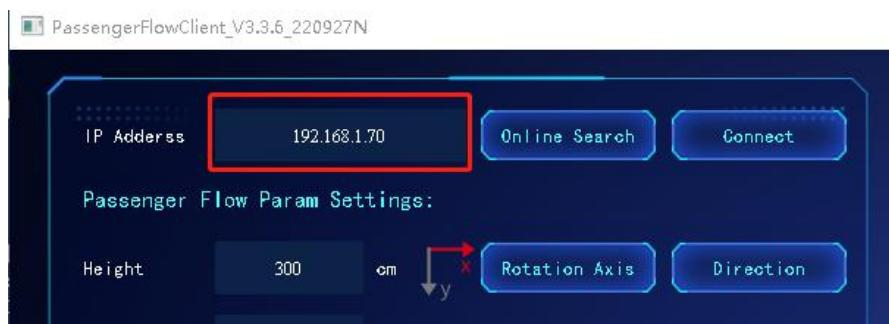

Figure 2-3 Example of manually entering IP
(1) Manually input directly in the IP address edit box, as shown in Figure 2-3;